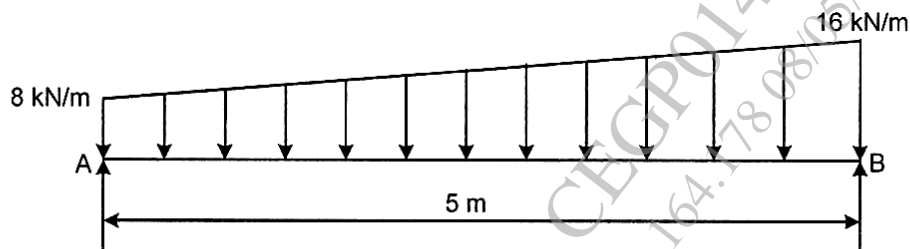

Fig.3
5. a) A simply supported beam of span 5 m, intensity of loading increases uniformly [6] from 8 kN/m at one end to 16 kN/m at the other end as shown in fig.3. Find the position and magnitude of the maximum bending moment. Also Draw Shear Force & Bending Moment Diagram.